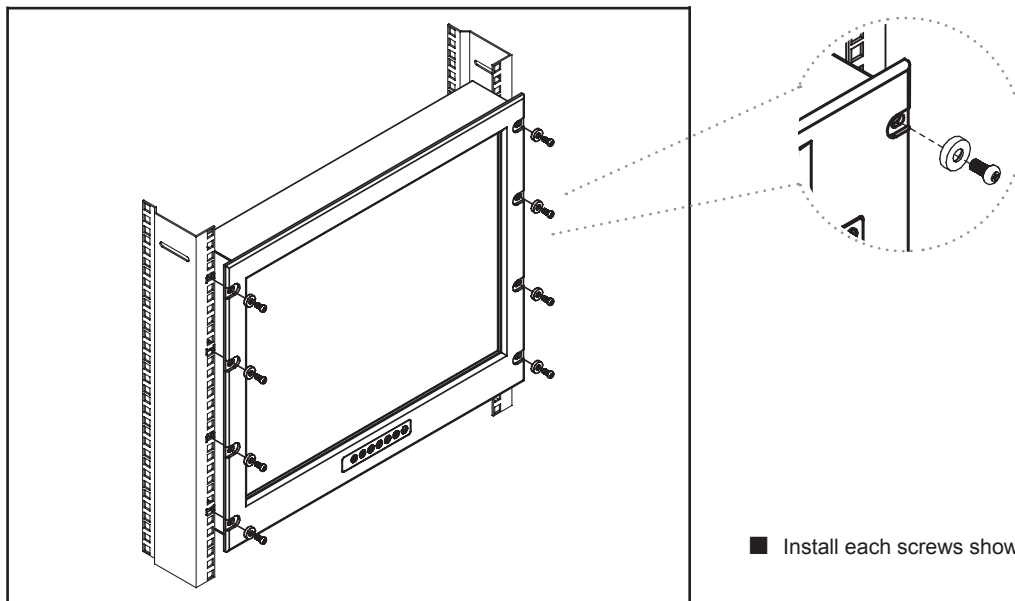

Figure 10.
■ Install each screws shown in **Figure 10**.